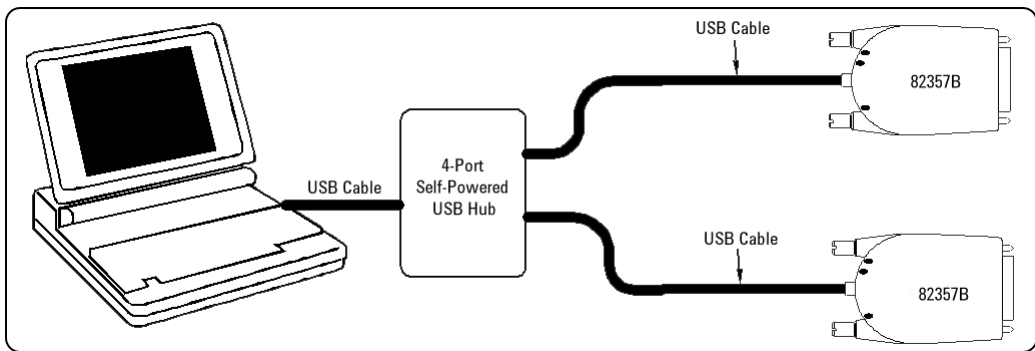

Figure 1-5 Connecting the 82357B to a USB Hub
- 1 Plug the power adapter into the hub and into an electrical outlet. Make sure the hub is operating in self-powered mode. **Figure 1-5** shows a 4-port self-powered USB hub with two 82357B USB/GPIB Interfaces connected.